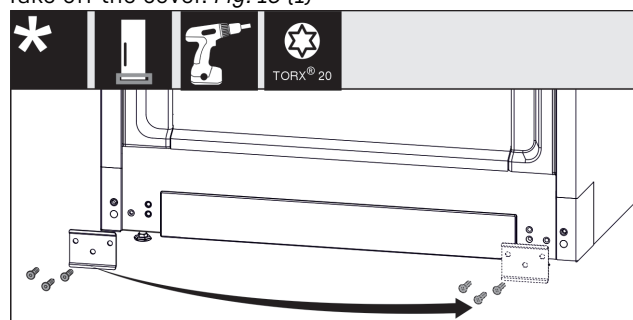

Fig. 17
- Unscrew the metal plate, move it to the other side and screw it on again. Fig. 17 (1)